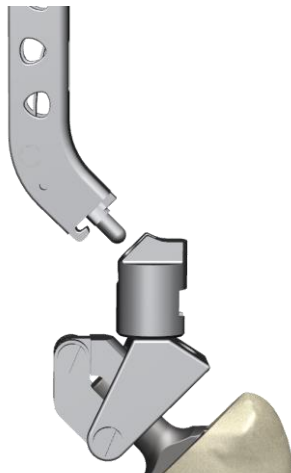
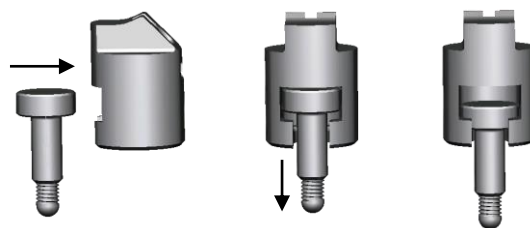

Figure 11: Stem extractor with mounted Adapter modular and Rasp handle straight (detailed view)
Figure 13: Connection of the Screw for Adapter modular with the Extraction Piece for Adapter modular
- Taking into account the axis of the stem, screw the *Screw for Adapter modular* into one of the two drill-holes of the *Stem extractor* until the cone is firmly in position (Figure 11). Connect the *Screw for Adapter modular* with the *Extraction piece for adapter modular* (Figure 13).
- Connect the *Rasp handle straight* to the *Adapter modular* (Figure 11 and 12).